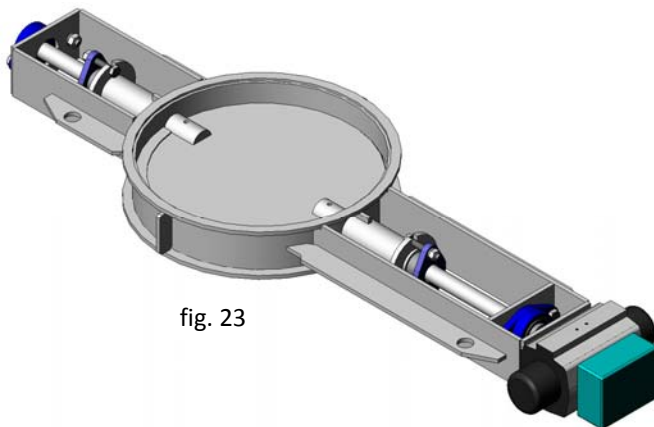

fig. 23
- Single acting pneumatic cylinder (fig. 23) *